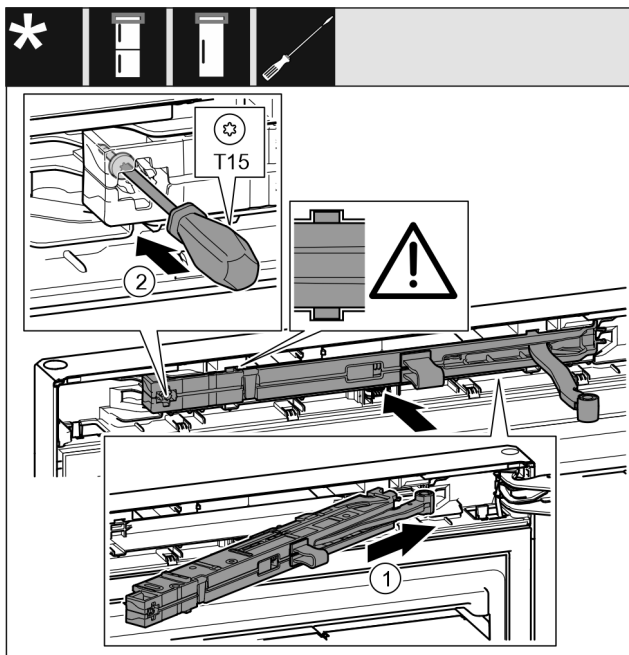

Fig. 22
- ▶ Slide the soft stop unit on the bearing bracket side at an angle into the slot as far as it will go. *Fig. 22 (1)*
- ▶ Tighten the screw with a T15 screwdriver. *Fig. 22 (2)*